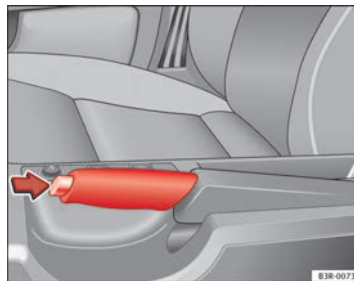

Fig. 153 Detailed view of the centre console: Handbrake on
- Pull the lever up slightly and *at the same time* press in the release button ⇒ Fig. 153 (arrow).